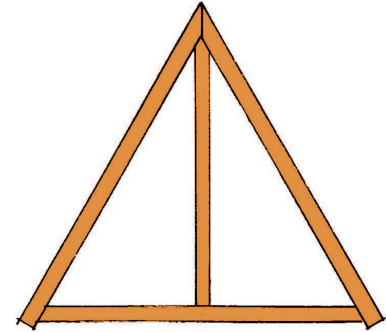

Figure 10
The two sloping members on the sides of horizontal beam in Figure 10 are called **rafters**.
1. Write the name of each of the four members next to the member on the diagram in Figure 10. This is called adding **labels** to the diagram.